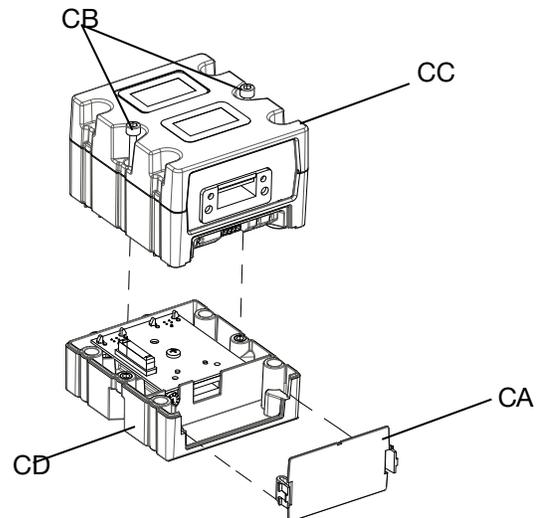

Fig. 34: Disassembling the CGM
5. Remove the access cover from the CGM (CA). Loosen the two screws (CB) and remove the CGM (CC) from the base (CD) as shown in FIG. 34.